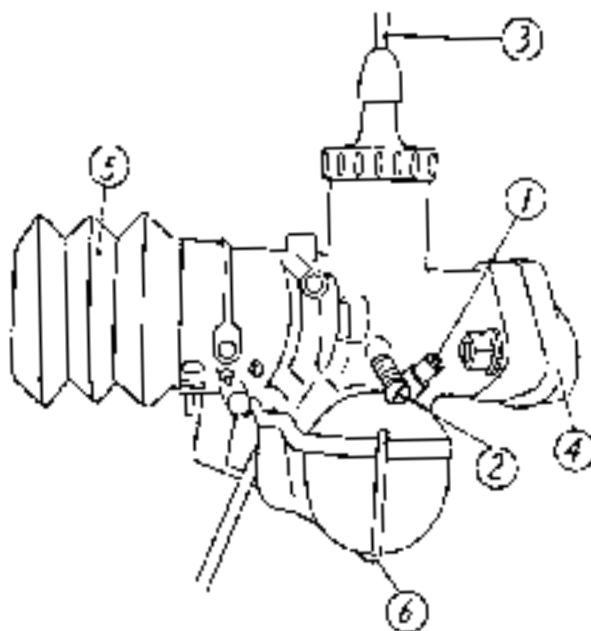
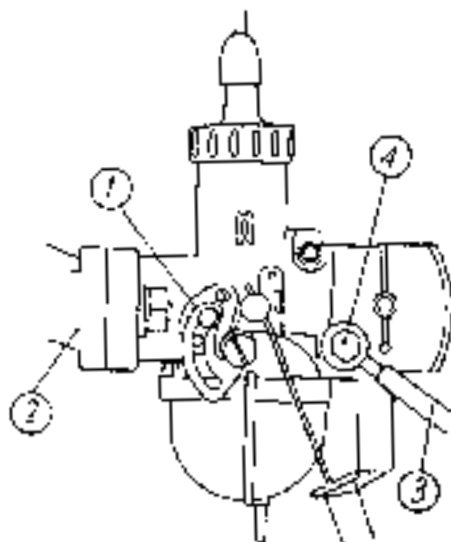

Fig. 6-1.
Fig. 6-2.
i) Carburetor (see Fig. 6-1 and Fig. 6-2)
- i) Idle adjusting screw (see Fig. 6-1)
- ii) Air screw (see Fig. 6-1)